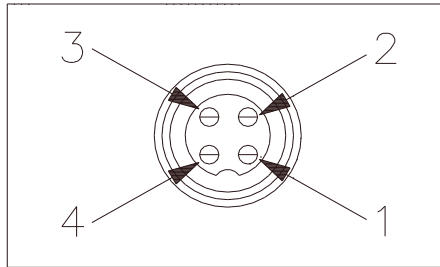

Fig. 3 Microphone plug pin numbers viewed from rear of pin receptacle.
5. The wires must now be soldered to the pins as indicated in the above wiring tables. If a vise or clamping tool is available, it should be used to hold the pin receptacle body during the soldering operation, so that both hands are free to perform the soldering. If a vise or clamping tool is not available, the pin receptacle body can be held in a stationary position by inserting it into the microphone jack on the front panel. The numbers of the microphone plug are shown in Fig. 3, as viewed from the back of the plug. Before soldering the wire to the pins, pre-tin the wire receptacle of each pin of the plug